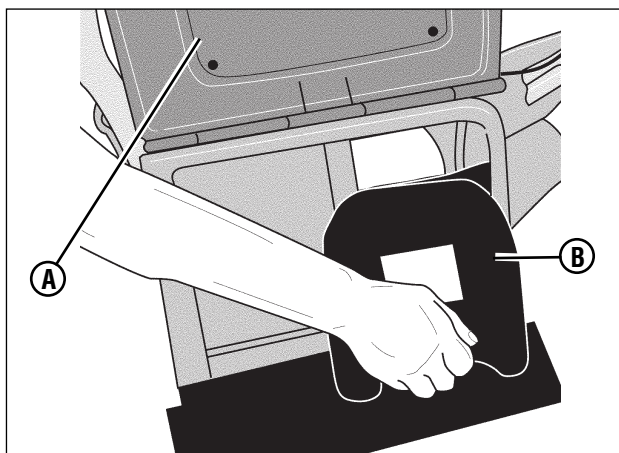

Figure 10: Removing the recycling plug
1. Raise the rear discharge door (A, Figure 10).
2. Remove the recycling plug (B) from the rear discharge chute.